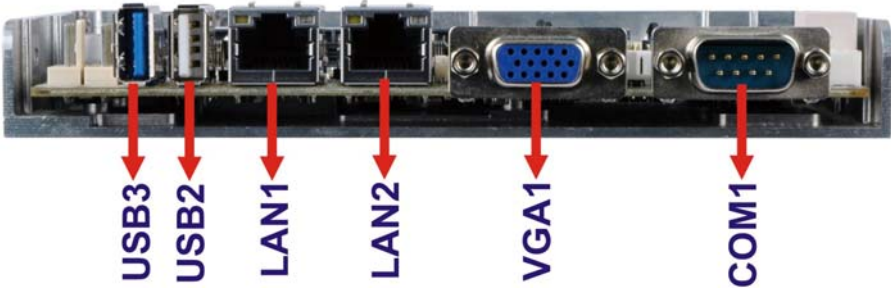

Figure 3-25: External Peripheral Interface Connector
Figure 3-25 shows the WAFER-BT-i1 external peripheral interface connector (EPIC) panel. The EPIC panel consists of the following:
- CN Location:See Figure 3-25
CN Location: See **Figure 3-25**